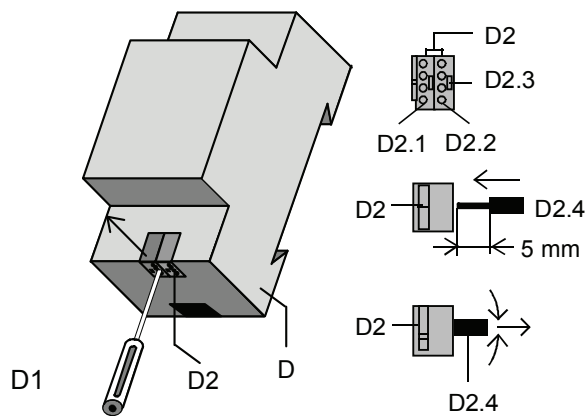

Figure 4: Connecting and disconnecting KNX bus wires
- The bus connection block (Figure 4, D2) is situated on the top of the device (Figure 4, D1).
- The bus connection block (Figure 4, D2) consists of two components (Figure 4, D2.1 and D2.2) with four terminal contacts each. Take care not to damage the two test sockets (Figure 4, D2.3) by accidentally connecting them to the bus cable or with the screw-driver (e.g. when attempting to unplug the bus connection block).
- Carefully put the screw-driver to the wire-inserting slit of the bus connection block's grey component and pull the bus connection block (Figure 4, D2) from the device (Figure 4, D1).
- Slip the bus connection block onto the guide slot and press the bus connection block (Figure 4, D2) down to the stop.
- The bus connection block (Figure 4, D2) can be used with single core conductors \varnothing 0,6 ... 0,8 mm.
- Remove approx. 5 mm of insulation from the conductor (Figure 4, D2.4) and plug it into the bus connection block (Figure 4, D2) (red = +, black = -).
- Unplug the bus connection block (Figure 4, D2) and remove the bus cable conductor (Figure 4, D2.4) while simultaneously wiggling it.